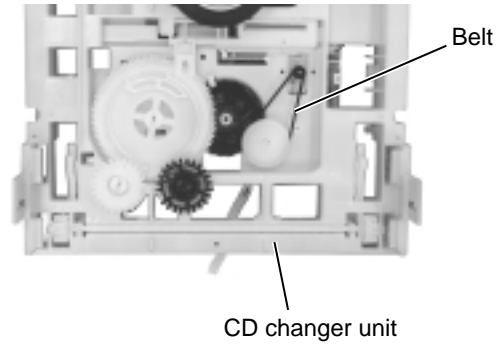

Fig.35
■ Removing the belt, the CD servo board and the switch board (See Fig.35 and 36)